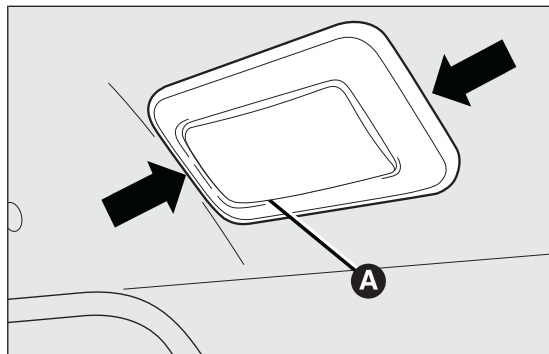

fig. 152
- ☐ extract the ceiling light A fig. 152 by operating in the points shown by the arrows;